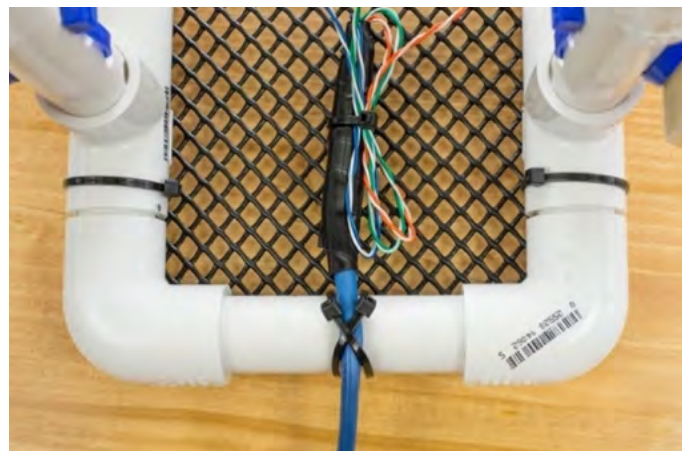

Figure 12
- Use a cable tie to attach the colored wire pairs to the waterproofed section of the tether cable as shown. (Figure 12)